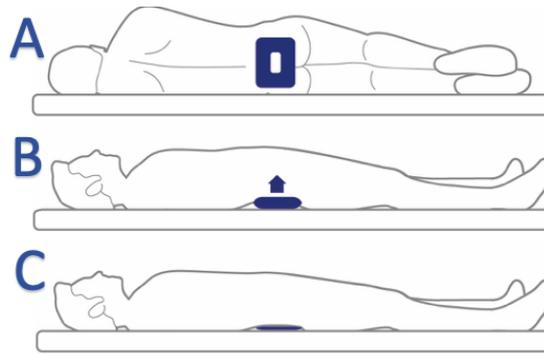

Figure 4. a) Location of inflatable in sacrum. b) Inflated position for inflatable. c) Position when inflatable deflated.
2. Place the inflatable so that its hole matches the sensor plate, then turn the person into a supine position. Ensure that the inflatable has not become folded and that everything is in the correct place. See Figure 4.